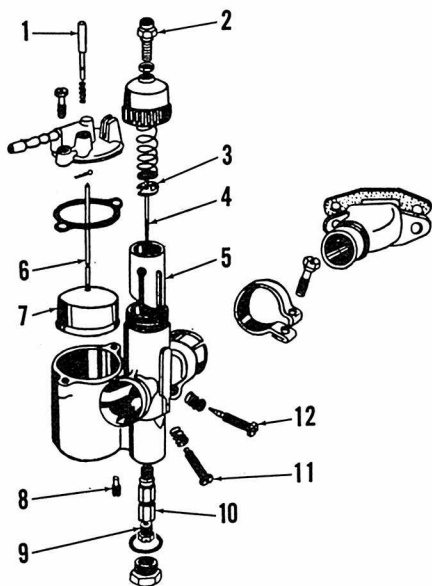

Fig. A2-1—Exploded view of Fisher-Amal carburetor.
**CARBURETOR.** Fisher-Amal 19EIK carburetor is shown in Fig. A2-1. Main jet (9) standard size is 90. Needle valve clip (3) should be installed in third groove from top of needle (4). Idle speed is adjusted at screw (11) and idle mixture at needle (12). Initial setting for mixture needle (12) is 1-1½ turns open. Turning the needle counter-clockwise leans the mixture.